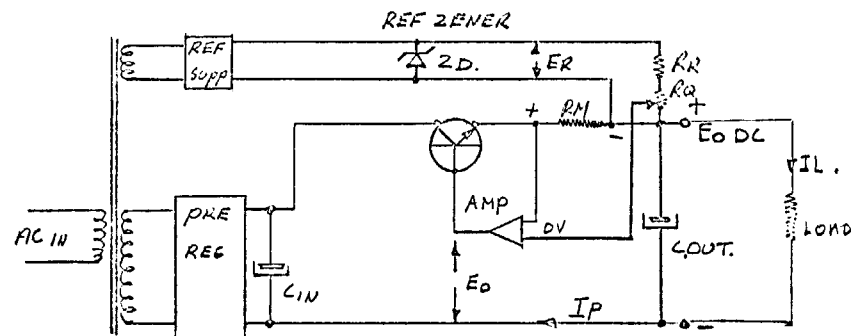

FIG 21 CONSTANT CURRENT REGULATOR
(66) Series Regulated Power Supply Constant Current Limit
Fig 21 illustrates the elements of a constant current power supply. Many of these elements are similar to those in section (65). The feedback loop acts continuously to keep the two inputs to the comparison amplifier equal. The inputs are the voltage drop across R_r R_q tapped from the slider of R_q , and the I_r drop developed by the load current I_L flowing through the current monitoring resistor R_m . If the two voltages are momentarily unequal, then the comparison amplifier output changes the conduction of the series regulator, which in turn corrects the load current and voltage drop across R_m until the error voltage at the comparison amplifier input is reduced to zero.
Although the circuit of Fig 21 will limit the maximum current to a constant set value in the event of a severe overload or short circuit across the output terminals the series regulator will be subjected to the full input voltage E_{in} in the event of a short circuit and if I_L is set by R_q to near maximum output, the large instantaneous $E_{in} \times I_L$ energy appearing across the series regulator could destroy some of the regulator transistors.